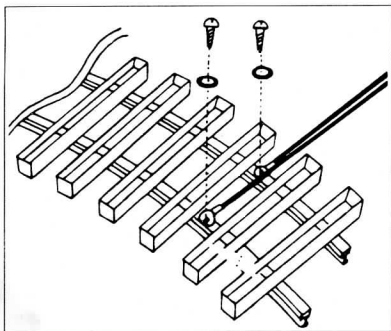

Fig 1
1. Connect the round terminal of track power wire to screws locating on reverse of track as shown (fig. 1).